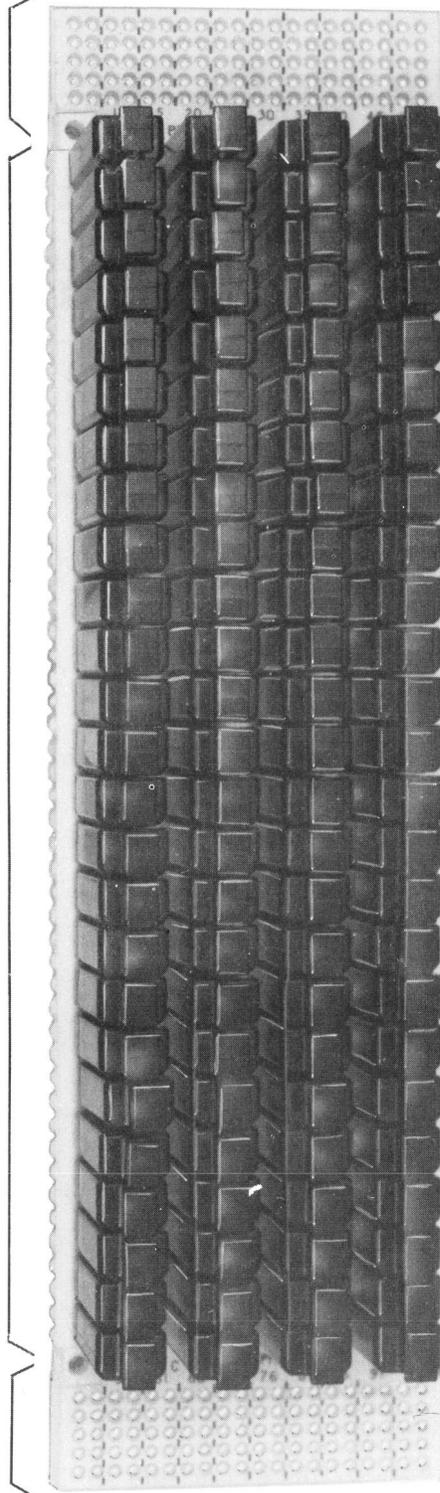

Fig. 1—302-Type Connector (With Protector Units Installed)
1.04	The 302-, 303-, and 305-type connectors (Fig. 1, 2, and 3) provide features for voltage protection, sneak current protection, and facilities for disconnecting outside plant cable from central office equipment. These connectors are also used to interface between outside plant and central office equipment where no protection is required.